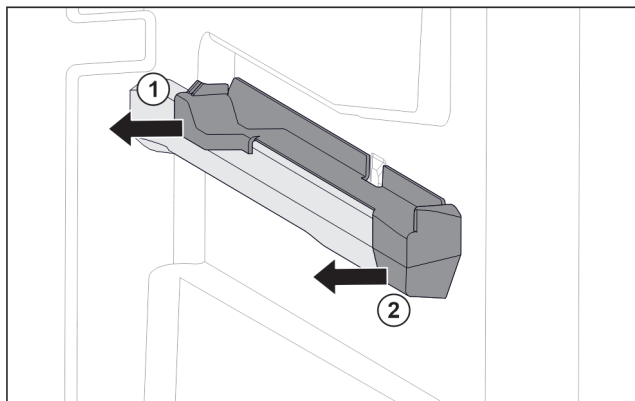

Fig. 114 Attachment on the right moulded rib
- Pull off attachment at the back sideways. Fig. 114 (1)
- Pull off attachment at the front sideways. Fig. 114 (2)